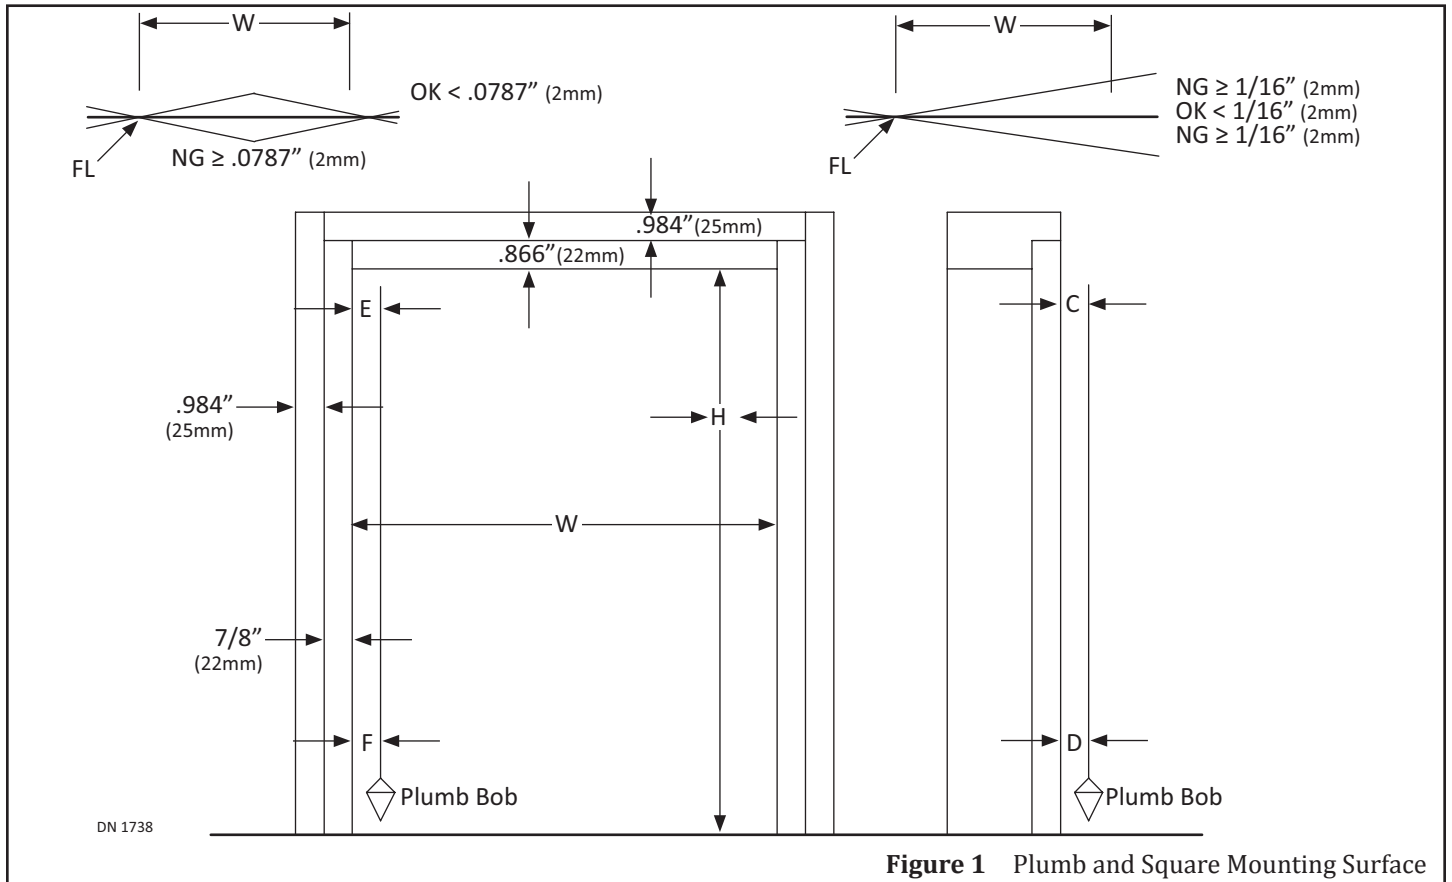

Figure 1 Plumb and Square Mounting Surface
2. Go Inside the Finished Opening. Use a Plumb Bob to ensure the Finished Opening is Plumb and Square. Please refer to Figure 1 and Table 1.
3. Go Outside the Finished Opening. Use a Plumb Bob to ensure the Finished Opening is Plumb and Square. Please refer to Figure 1 and Table 1.
2. Measure the Width of the Mounting Opening at the Left side, Middle, and Right side. Please refer to Figure 1 and Table 2.
3. Measure the Height of the Mounting Opening at the Top, Middle, and Bottom. Please refer to Figure 1 and Table 2.